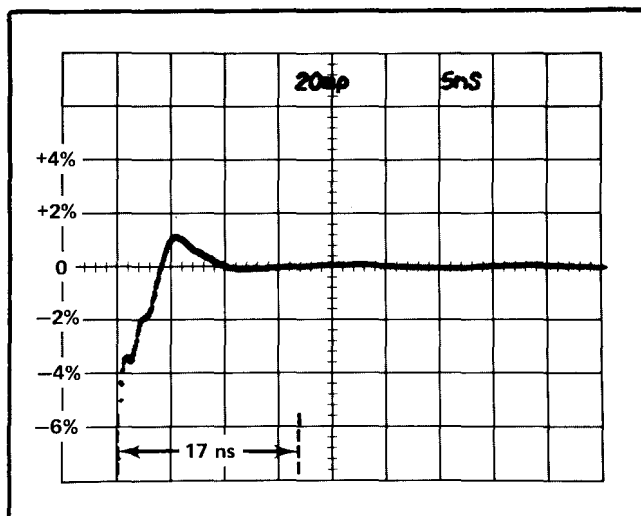

Fig. 5-9. Pulse aberrations of the S-5, S-54 and 7S12 system.
e. Set the mp/DIV switch at 20 and place the step near the left edge of the graticule. See Fig. 5-9 for this waveform.